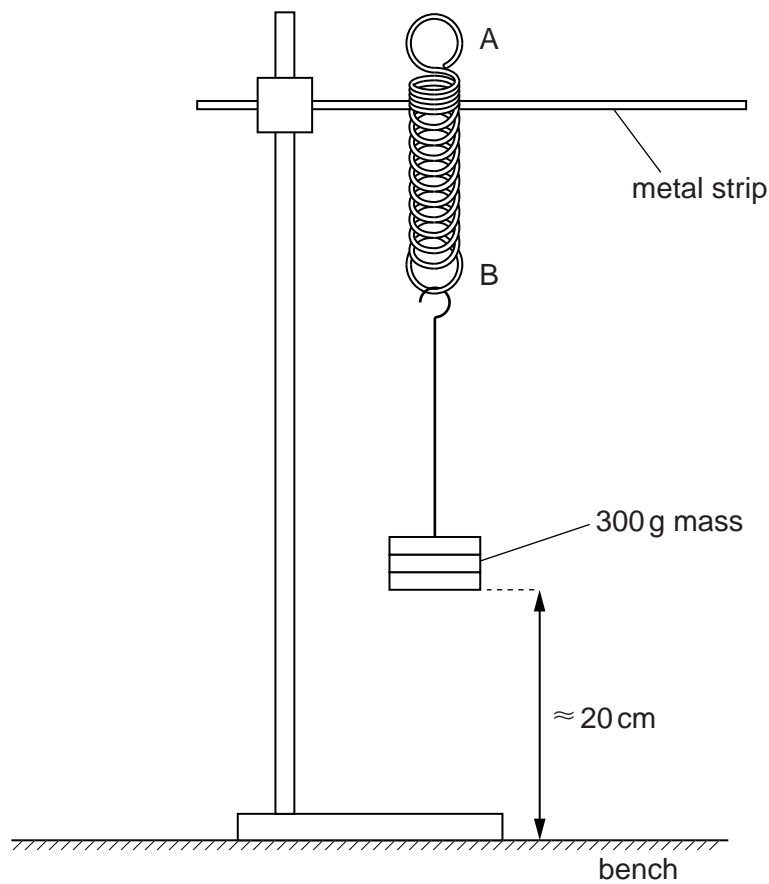

Fig. 2.3
- (c) (i) Clamp the metal strip so that it is horizontal with loop A of the spring at the top. Gently hang a mass of 300g from loop B, as shown in Fig. 2.3. Ensure that the base of the mass hangs approximately 20 cm above the bench.